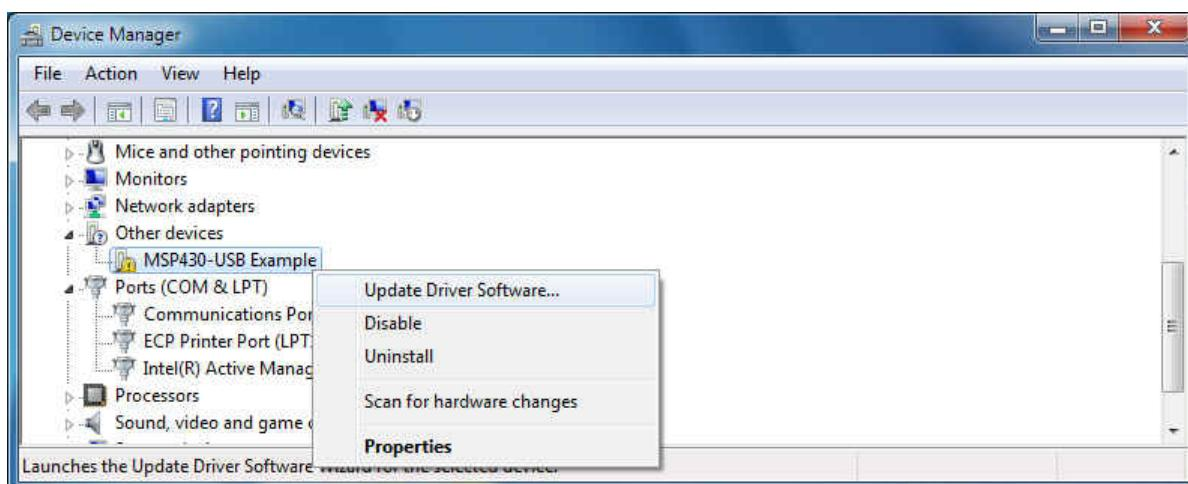

Figure 8. USB Driver Installation – Screen 1 (Win 7 OS only)
2. Win XP OS starts up the *New Hardware Wizard* to enable the user to install the USB driver for the new hardware. The Windows 7 or Windows 8 OS attempts to find the driver for the *new hardware found* automatically and if the driver is not found, there is no pop-up message to indicate that the driver installation failed. In the Windows 7 or Windows 8 OS, click on *Device Manager*, right click on *MSP430-USB Example* under *Other devices* and click on *Update Driver Software* as shown in Figure 8. This step is not required for the Windows XP OS.